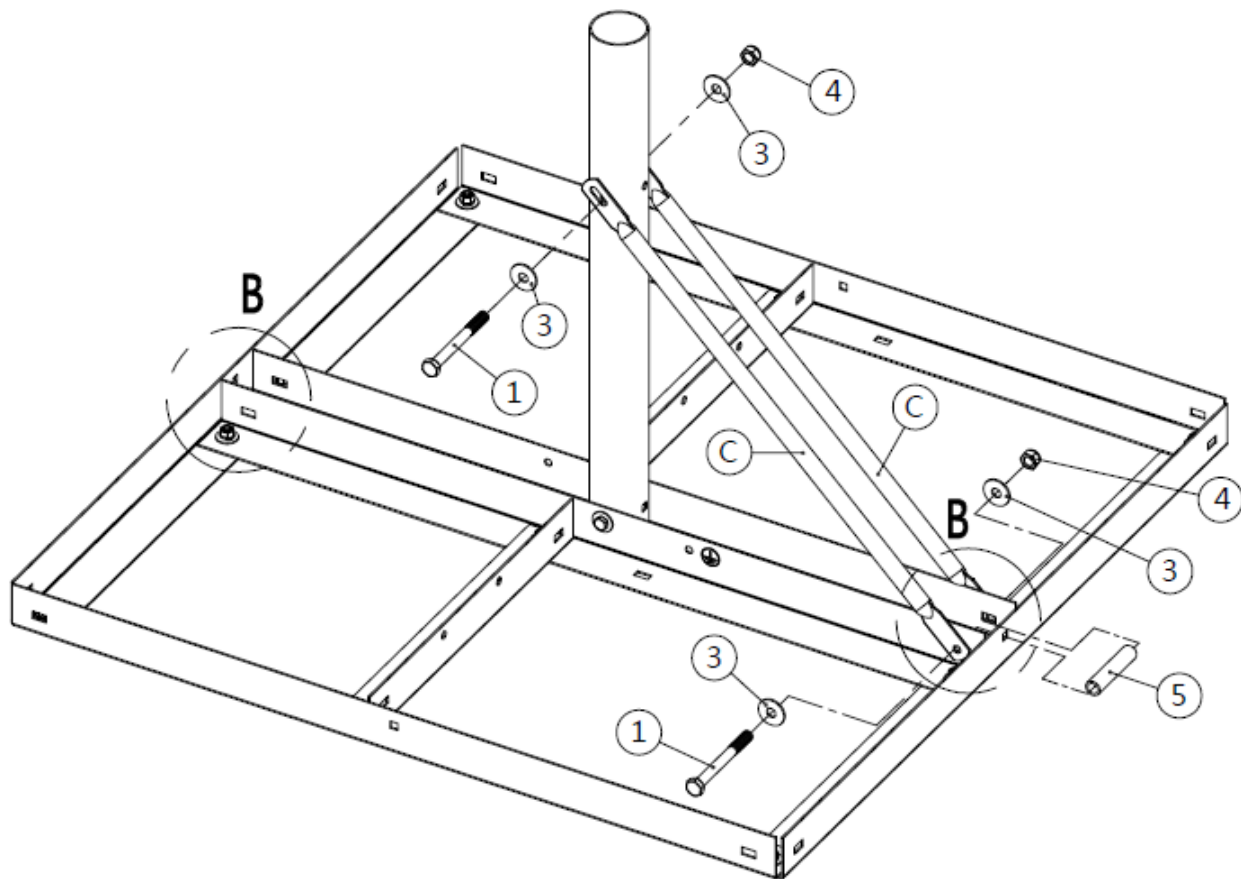

Figure 34: Installing the first two side supporting rods
- Assemble the first set of two side supporting rods (C) to secure the mast pole to the base. The supporting rods are secured to the mast pole using a hex-head cap screw (1), two washers (3) and a nylon nut (4), as shown in Figure 34.
For the base, remember to insert the bush (5) between the two side support rods, and then thread the hex-head cap screw (1) through the bush and secure it using two washers (3) and a nylon nut (4) as indicated in Figure 34.